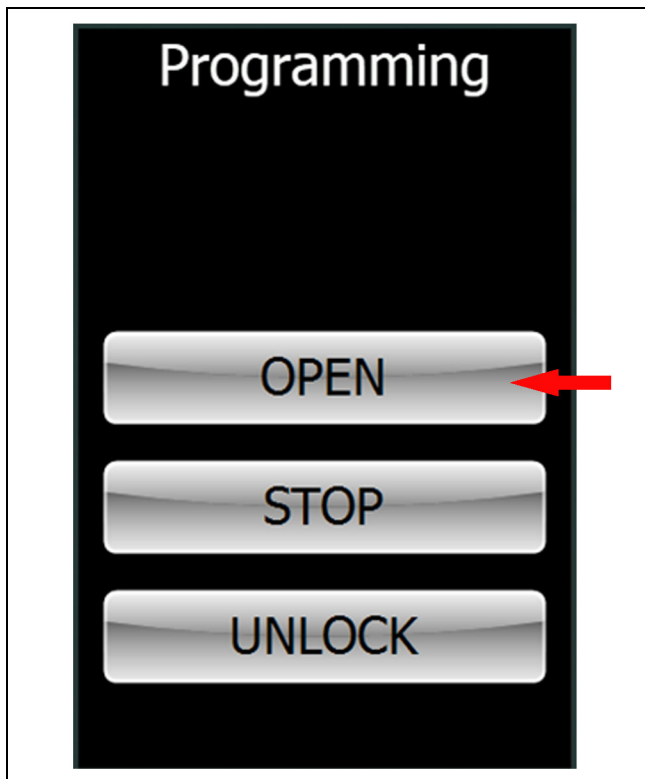

Figure 57
- Press the "OPEN" button on the wall switch. The panel will start to move. If the door is moving to the open position, the polarity is correct. Let the panel move 24" and then press "UNLOCK" on the wall switch. The door will stop. See Figure 57.